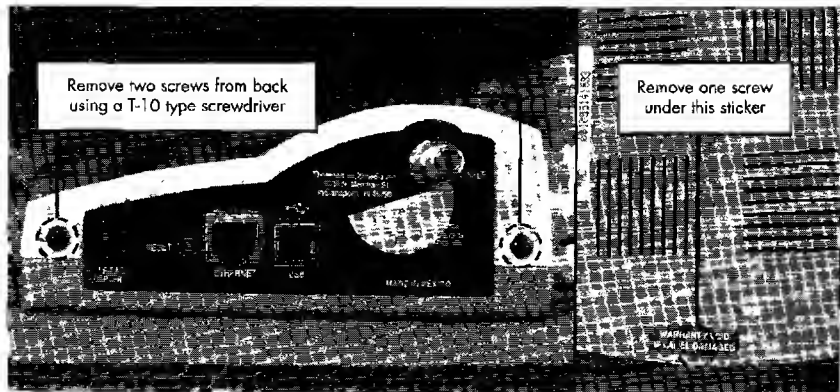

Figure 19-2: To open the modem, you need to remove these three screws.
2. Remove a third screw underneath the sticker that reads *WARRANTY VOID IF LABEL DAMAGED* (shown in Figure 19-2). Once you've removed the three screws, the modem's case should open like a clamshell, but be careful not to break the small plastic latches located near the modem's LEDs.